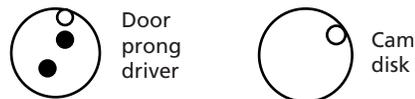

Fig. 2b - Installation of door prong driver and cam disk
Step 4 - Place the lock face side down on a flat surface. Install the door (R) prong driver first, then place the cam disk over the top in the orientation indicated in *Fig. 2b*.